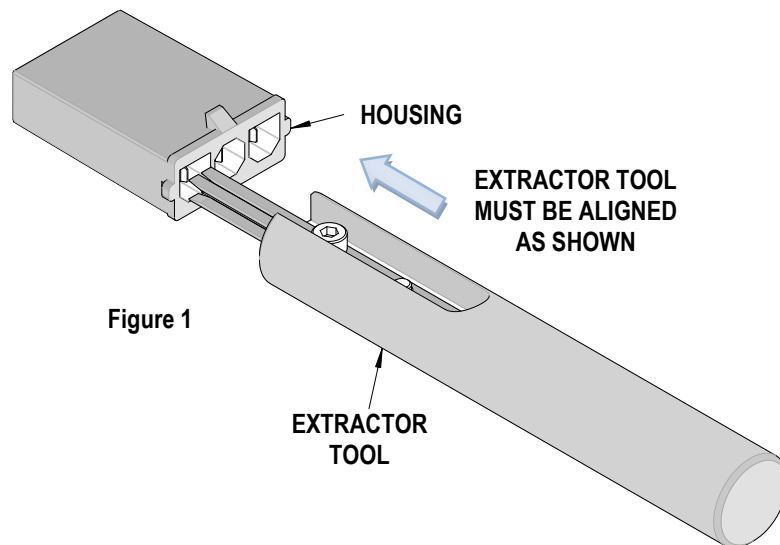

Figure 1
2. Place the Extraction tool into the housing as shown in Figure 1. The tool will fit only one way.